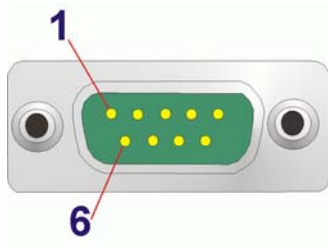

Figure 4-22: Pinout Locations
- CN Pinouts:** See Table 4-22 and Figure 4-22